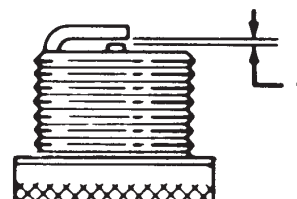

Figure 39
6. Set the gap between the electrodes on the spark plug at 0.030 in. (0.76 mm) as shown in Figure 39.